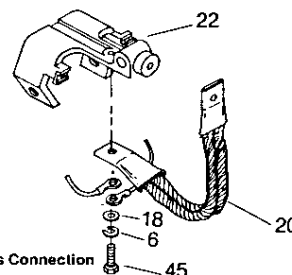

Figure 6
2. Disconnect the arc chute wires by removing the hex head cap screw (45), washer (18), lockwasher (6); arc chute wires and shunt (20).
4. Remove the arc chute by removing hex head nut (16), lockwasher (4), hex head cap screw (15) and the arc chute.
7. Reconnect arc chute wires (Fig. 6) and shunt, using the washer, lockwasher and hex head cap screw.
1. With all power removed, disconnect the bottom end of the shunt (20) by removing hex head cap screw (45), lockwasher (6), washer (18), arc chute wires and shunt.
2. Disconnect the top end of the shunt (20) by removing hex head nut (19), lockwasher (6), washer (18) and the shunt.
3. Check that auxiliary arm pin (26) is centered and set screw (17) is tight.
5. Connect the bottom end of the shunt by replacing the shunt, arc chute wires, washer, lockwasher and hex head cap screw (Fig. 6).